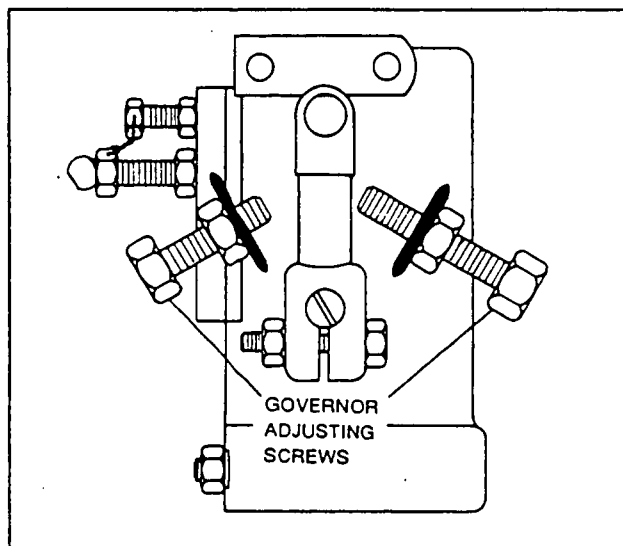

Figure 1. Engine Governor Adjustment
5. If no-load AC frequency is high or low, adjust the engine governor as follows (Figure 1):